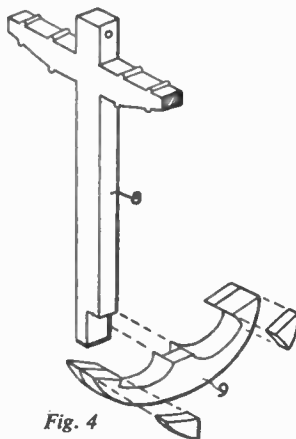
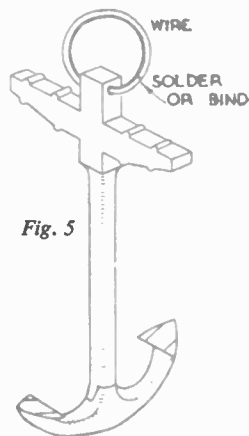

Fig. 4
Fig. 5
The anchor is made up as shown in Fig. 4, from which it will be noted that the two pieces (8) and (9) are halved and glued together. Odd scraps of waste wood should be glued on either side of piece (9) at the ends, and the whole anchor is then shaped as shown in Fig. 5. The stock is drilled to take a ring of wire of about 1in. diameter.
Place the glass block in various positions in the path of the narrow parallel beam of light and note how the bending of the light, as it passes through the block, produces greater and greater displacement as the angle of incidence ABC is increased (Fig. 4).
This is a night light (Fig. 5) arranged to shine on a pocket watch or wristlet watch, so that the time may be easily seen during the night without inconvenience.